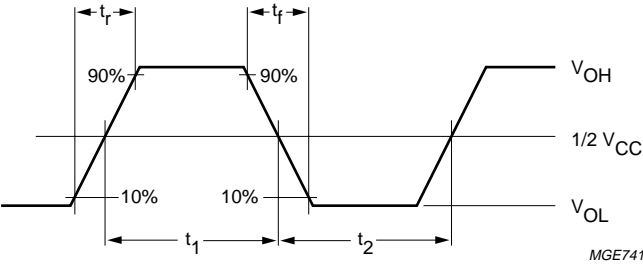

Fig.13 Definition of transition times.
3. The transition time and duty cycle definitions are shown in Fig.13;  $\delta = \frac{t_1}{t_1 + t_2}$